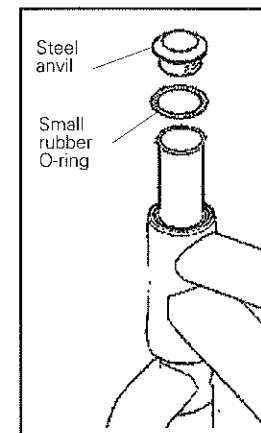

Fig. 40
1. Install the **small rubber O-ring** onto the **steel anvil** (Fig. 40).